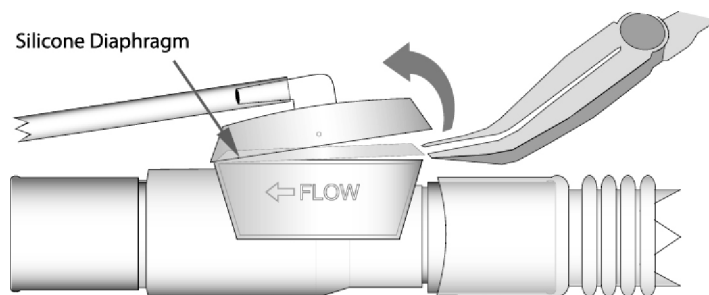

Figure D-1 Removing Silicone Diaphragm -- Pediatric/Adult Patient Circuit
1. Using a hemostat or a tongue blade, carefully open the exhalation valve as we show in Figure D-1. Remove the top cover first, and then remove the silicon diaphragm. Place the silicon diaphragm in a clean area.